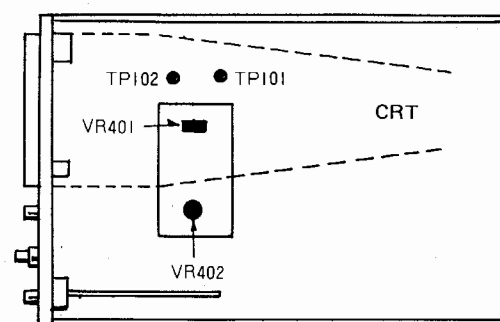

Fig. 40
2. Short the test terminals TP101 and TP102 on the lower printed circuit board. (see Fig. 40)
Variable DC BAL Adjustment (see Fig. 40):